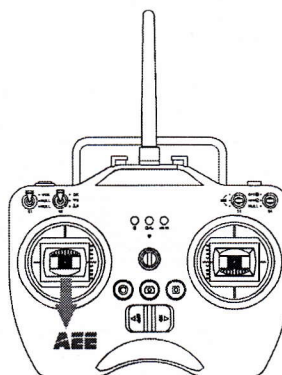

Figure 19
**Method 2 (Figure 19):** After the quadcopter lands, toggle the left joystick to the lowest position and hold for 3 seconds to stop the motor.